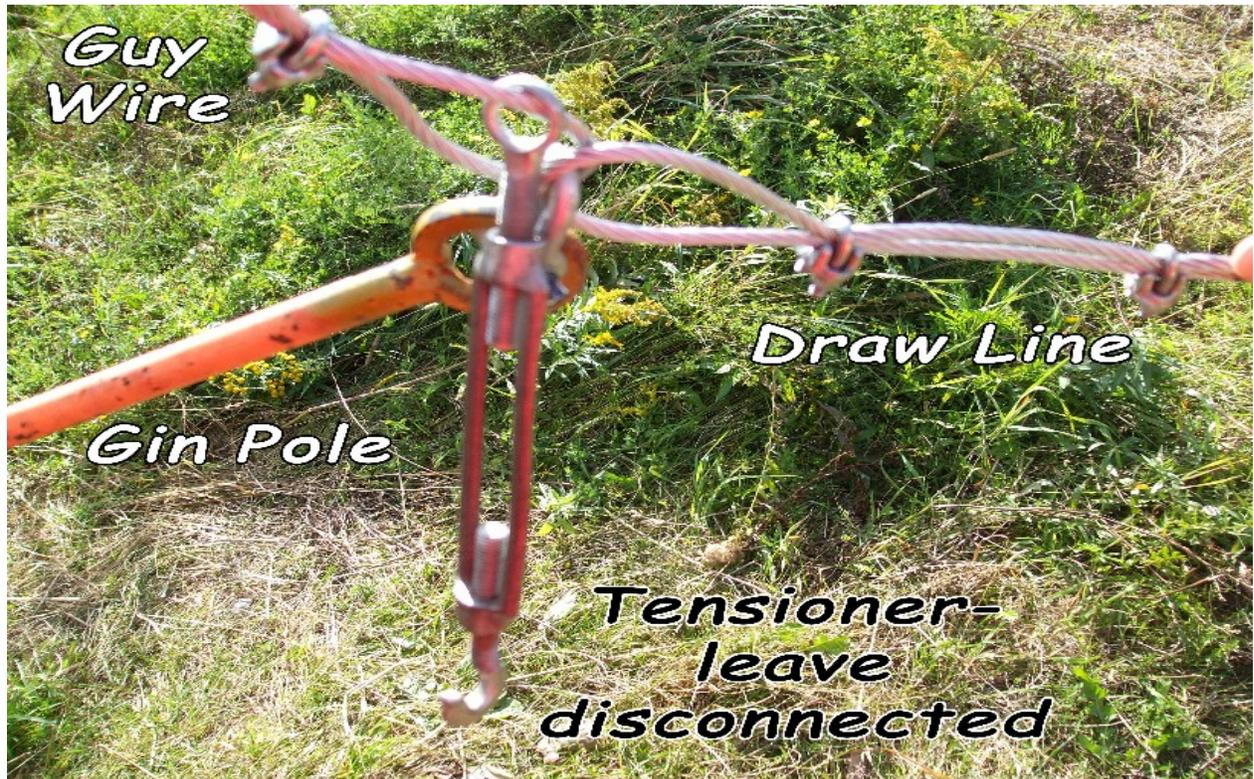

Figure 8
1. Attach the dead man to guy wire C and then to the tower base as shown in figure 8. Ensure that the cable is secured and the cable tensioner is adjusted to its maximum safe extension.